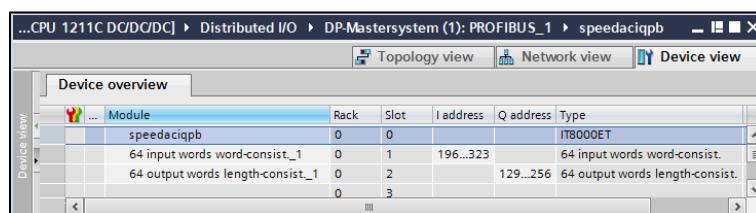

Figure 53: I/O Range for Monitoring
- Add inputs and outputs range to be monitored from the catalog list (see **Figure 53**).